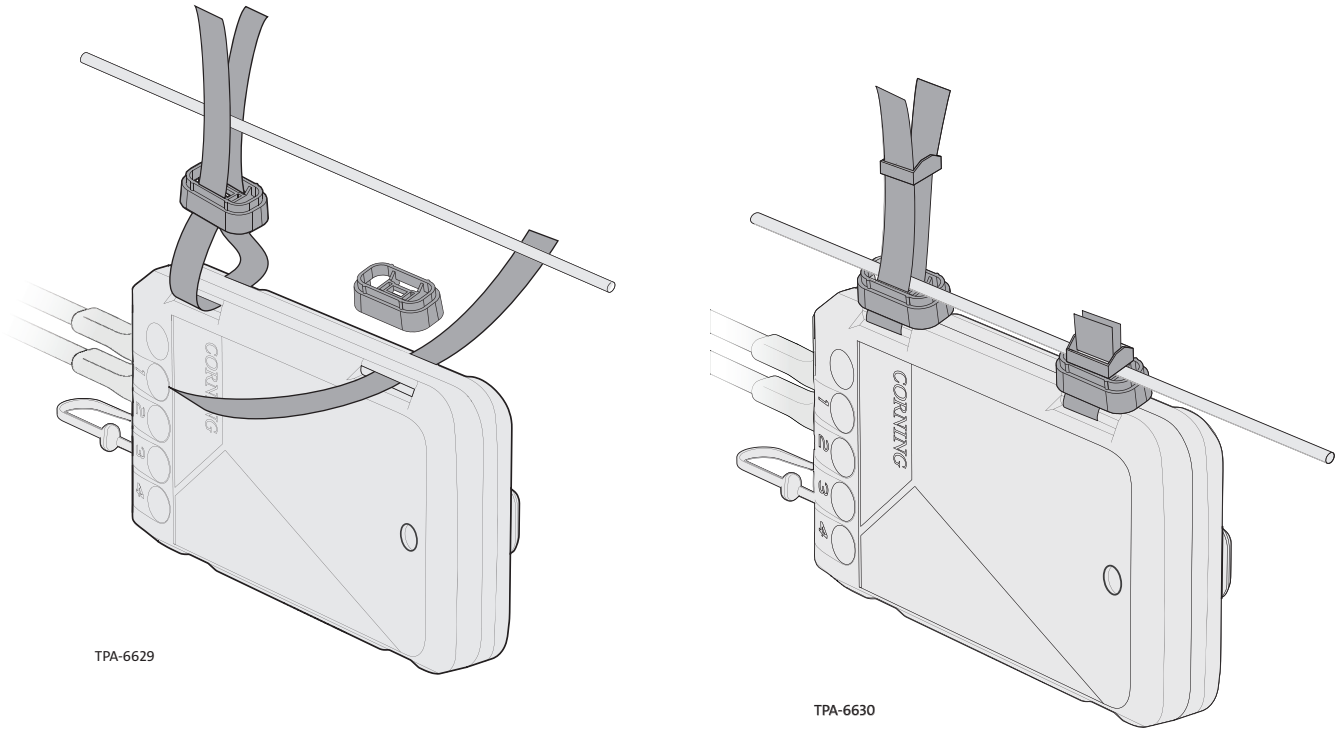

Figure 4
Step 1: Thread straps through spacer and slots in base of terminal. With strand between strap, insert locking head onto strap and tighten onto the strand (Figure 4).